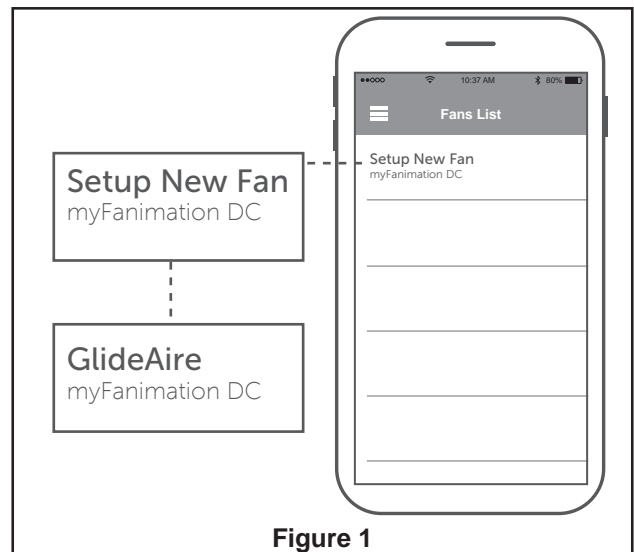

Figure 1
- 1. Open the fanSync app and tap Setup New Fan to begin setup. (Figure 1)
- 1. Installing Wall Holder:** (Figure 1)